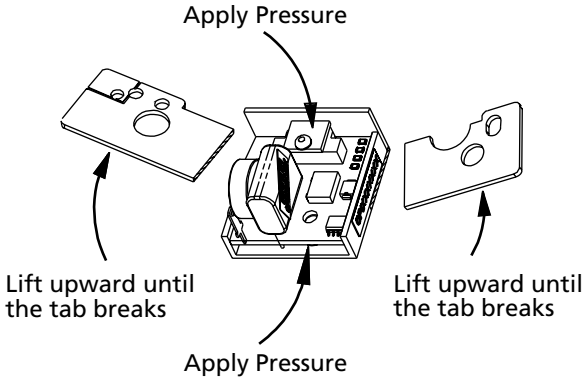

Figure 50. Removing Mounting Tabs
1. Place pressure on the front and top of the WOPI. See Figure 50.
2. Lift the mounting tabs upward one at a time until they snap off as shown in Figure 50. The plastic molding has been scored to ensure a clean break.